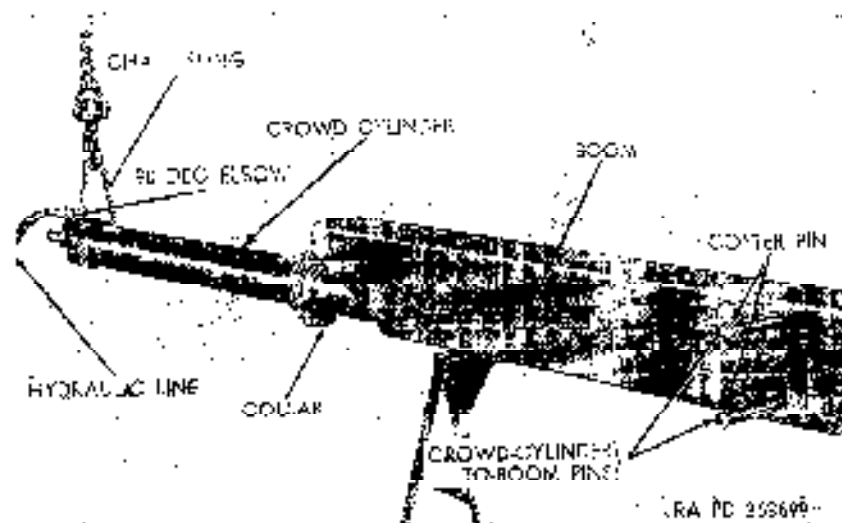

Figure 296. Reconnecting boom crowd cylinder from boom 303 and 305/6.
- (1) Install 90° elbow (fig. 296) with hydraulic line attached in port on top of crowd cylinder head.